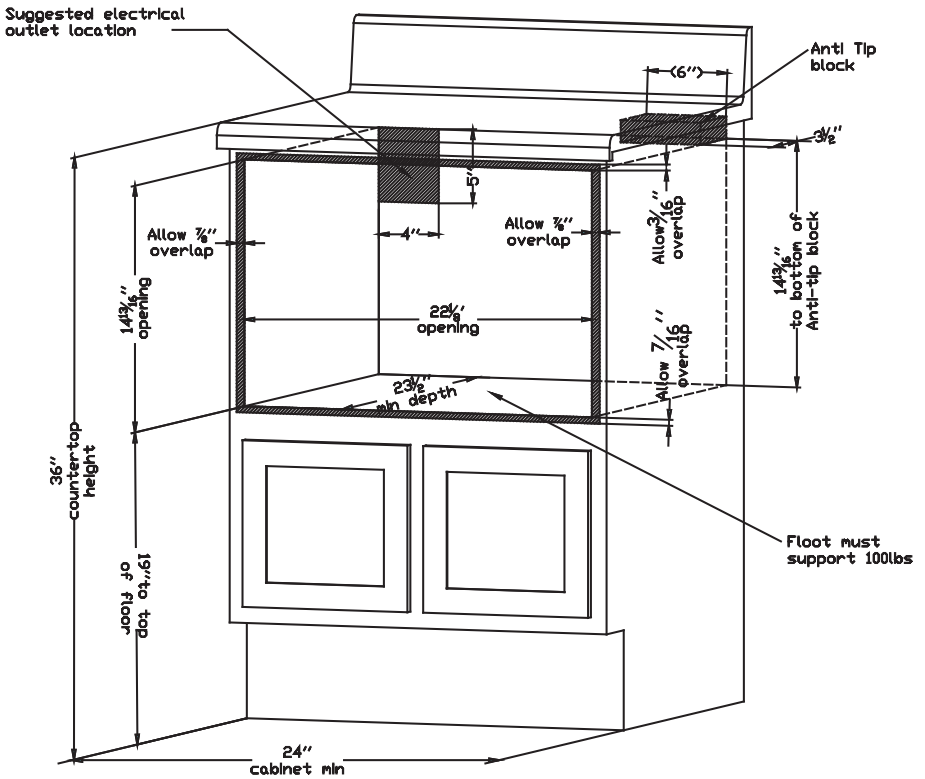
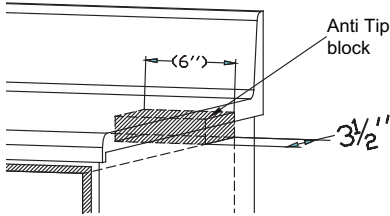

Figure 1
Figure 3
For SAFETY CONSIDERATIONS do not install drawer in any combustible cabinetry, which is not in accord with the stated clearances and dimensions on pages 2 and 4. See Figure 1.
•Dimensions that are shown in Figure 1 must be used. Given dimensions provide minimum clearance. Locate electrical outlet in the shaded area in the upper left-hand corner of the cutout. See Figure 3.
Figures 1 and 2 contain many Microwave Drawer measurements for reference when planning the drawer's location. This Microwave Drawer can be installed below any electric or gas wall oven.
To reduce the risk of tipping of the drawer, the Anti-Tip block must be properly installed located 14 13/16-inches above the floor on which the Microwave Drawer will sit. The 6-inch Anti-Tip block must be provided by the installer. See Figures 1 and 3. The Anti-Tip block prevents serious injury that might result from spilled hot liquids.